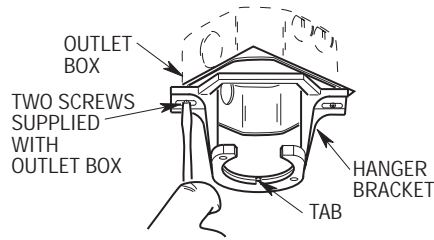
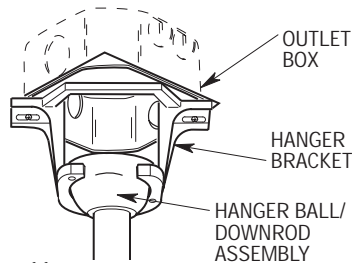

Figure 10
Figure 11
1. Securely attach the hanger bracket to the outlet box using the two screws supplied with the outlet box (Figure 10).
2. Carefully lift the fan and seat the hanger ball/downrod assembly on the hanger bracket that was just attached to the outlet box (Figure 11). Be sure the groove in the ball is lined up with the tab on the hanger bracket (Figure 10).